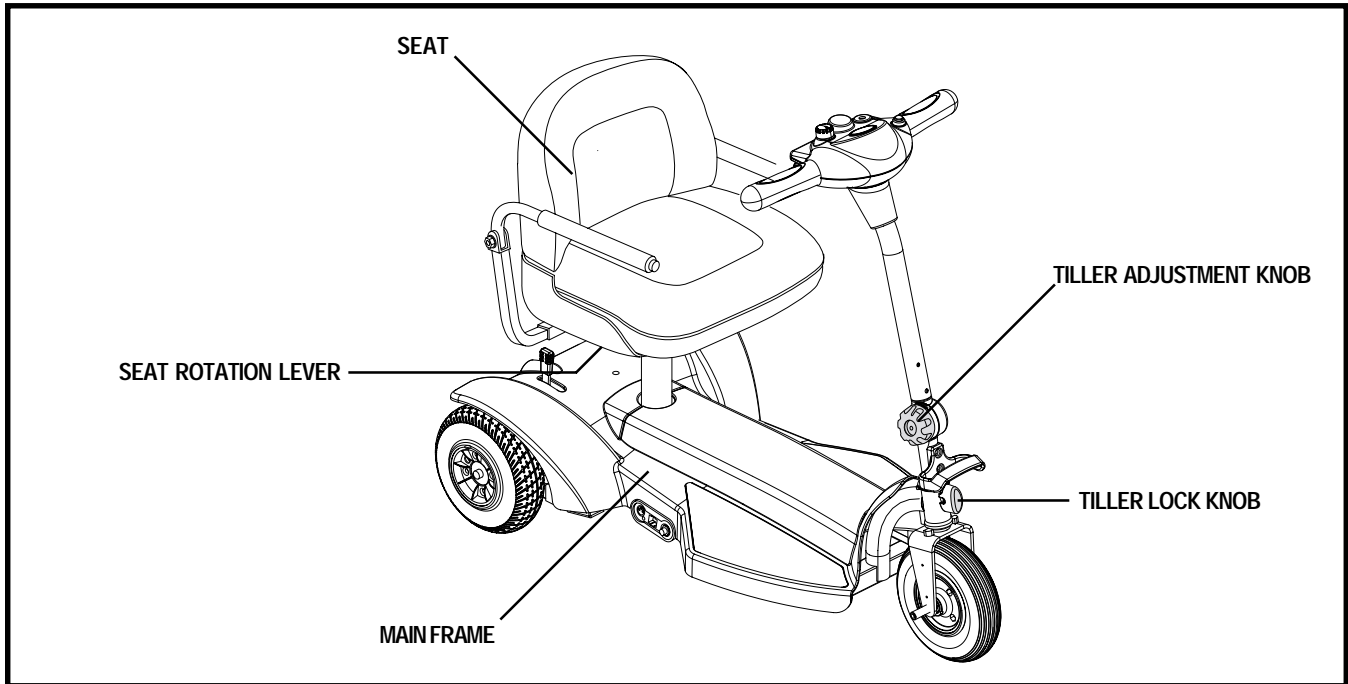

Figure 17. Travel Scooter Components
2. Disengage the seat rotation lever and rotate the seat so it faces you. **See figure 17.**
You can disassemble the Travel Scooter into two pieces: the seat and the main frame. **See figure 17.**